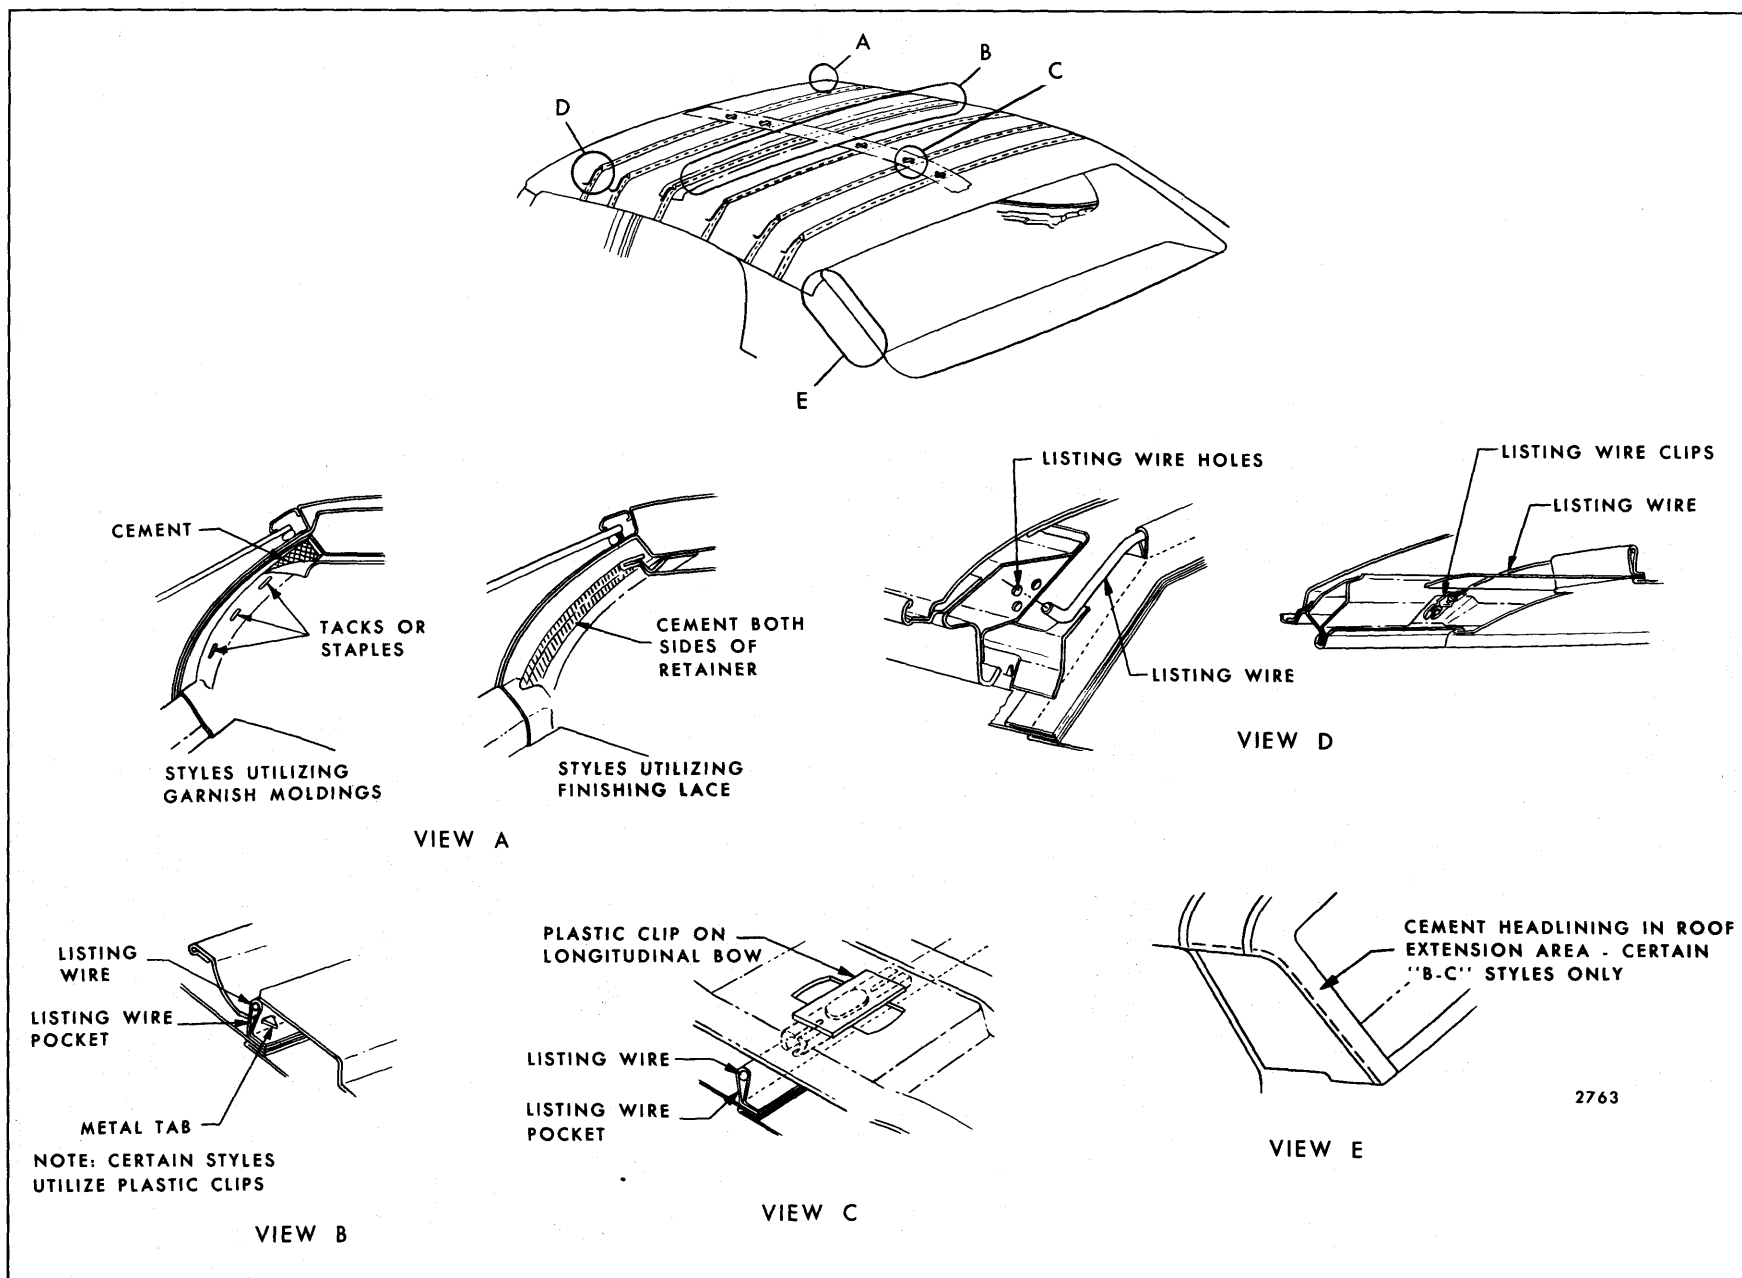

Fig. 11-1—Typical Cloth and Vinyl Headlining Installations
On certain styles, the listing wires are further attached to the roof panel by snap-in type clips on the front to rear longitudinal roof bow (See View "C" in Fig. 11-1).
Where garnish moldings are utilized the headlining is tacked or stapled in addition to being cemented at the windshield and back window or back body opening (View "A", Fig. 11-1).
6. Starting at front of body, carefully disengage No. 1 and No. 2 listing wires from side roof inner rails and supporting clips on longitudinal (front to rear) bow on styles so equipped (View "C" in Fig. 11-1). In like manner, working from rear of body, disengage listing wires from side roof rails and supporting clips on longitudinal bow. Exercise care to keep headlining material clean by gathering or folding headlining with listing wires on outside.
opening. On styles that utilize finishing lace be certain cement is applied to both sides of retainers (See View "A" in Fig. 11-1).
3. Lift headlining assembly into body and install No. 3 listing wire and listing wire pocket over metal tabs at roof bow and bend up tabs to secure wire to bow. On styles that incorporate plastic clips in place of metal tab, snap No. 3 listing wire into clips. Make certain headlining is cemented in body (See Views "B & C" in Fig. 11-1).
4. Working rearward from No. 3 listing wire, install listing wires in side roof rails and snap listing wires into plastic clips on longitudinal bow (on styles equipped with longitudinal bow). In like manner, working forward, install remaining listing wires (View "C" in Fig. 11-1).
NOTE: Listing wires may be adjusted up or down by utilizing appropriate holes in side roof rails. Listing wires should rest tight against roof panel after installation (View "D" in Fig. 11-1).